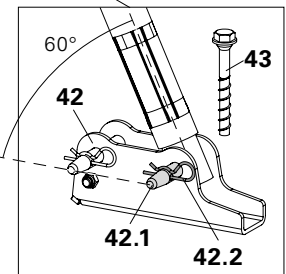

Fig. A4.01b
4. Fix Base Plate (42) to the ground using Anchor Bolts (43). Inclination angle of the Push-Pull Prop to the ground approx. 60°. (Fig. A4.01b)
5. Fix Push-Pull Prop (40) to the Base Plate (42) using Bolts (42.1) and Cotter Pins (42.2). (Fig. A4.01b)